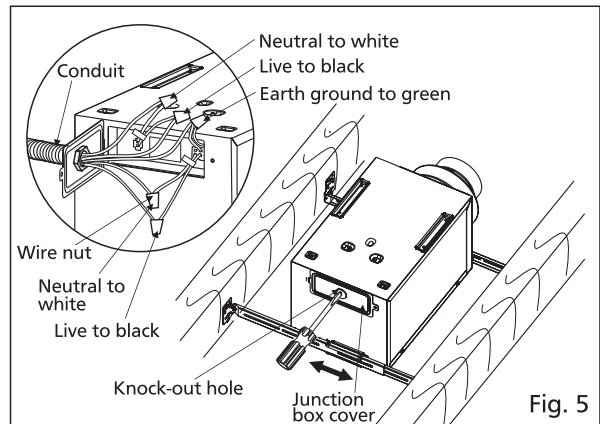

Fig. 5
7. Remove the knock-out hole from the junction box cover, and remove the junction box cover. Then secure the conduit or stress relief to the junction box knock-out hole. (Fig. 5)
8. Refer to wiring diagram (Page 4). Follow all the local electrical safety codes as well as the National Electrical Code (NEC). Using UL approved wire nuts, connect house power wire to ventilating fan wires. (Fig.5)